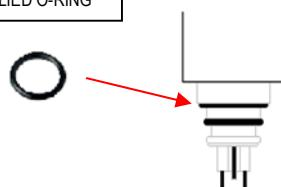

Fig. 4
2. Insert the supplied O-RING from the bottom, positioning it under the fixing nut of heating element (Fig. 4).